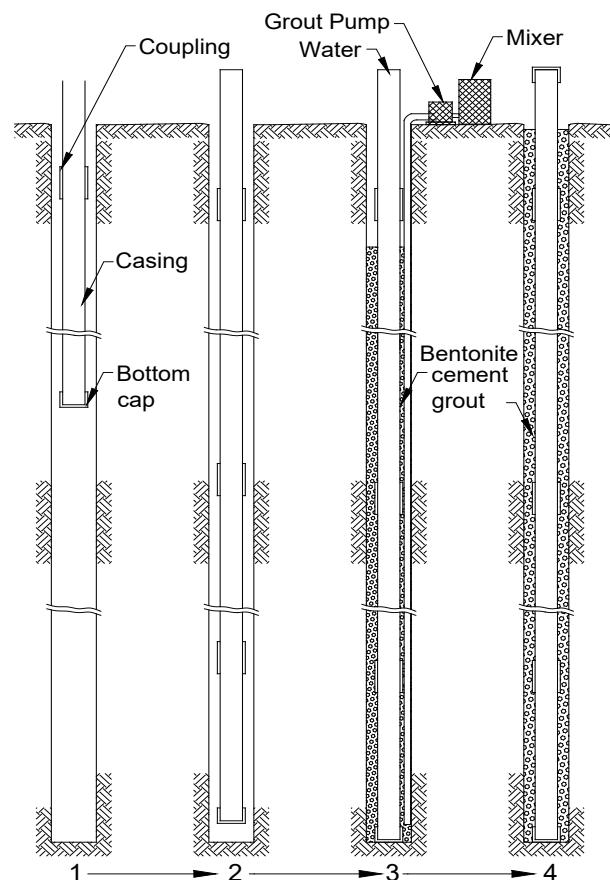

Figure 7-4 Grouting by tremie method
- e. For grouting the inclinometer casing in the borehole use of **tremie method** is recommended (figure 7-4). Lower 20 mm nominal diameter rigid PVC pipe lengths jointed using threaded sockets to around 0.5 m above the bottom of the borehole.